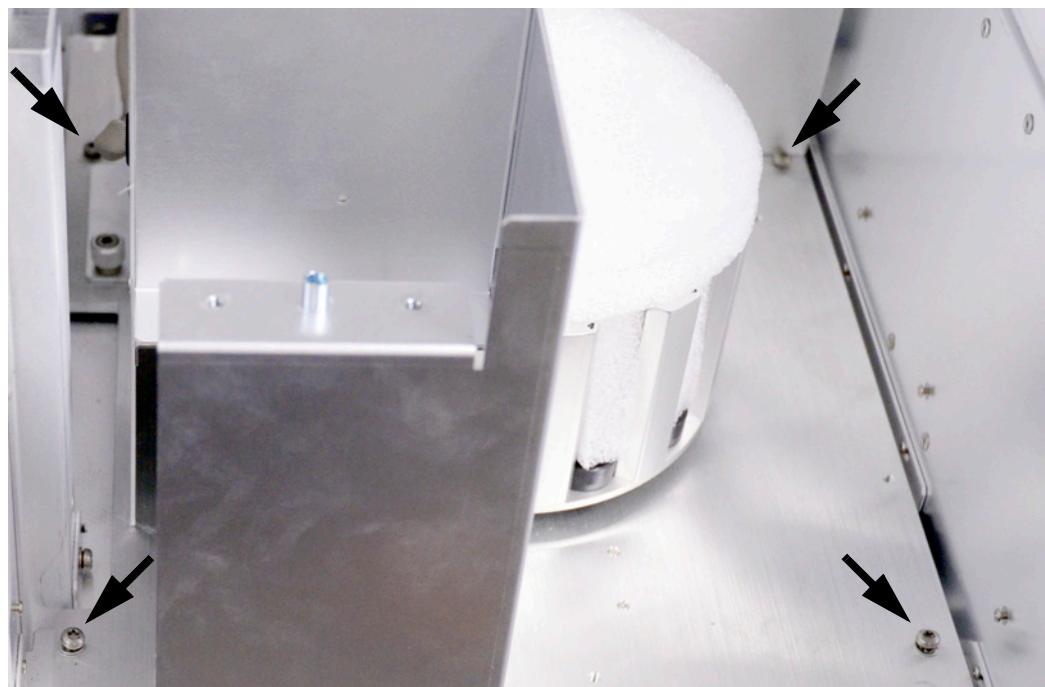

Figure 11 Loosening four T-20 Torx screws
- 3 Loosen the four T-20 Torx screws shown in Figure 11.